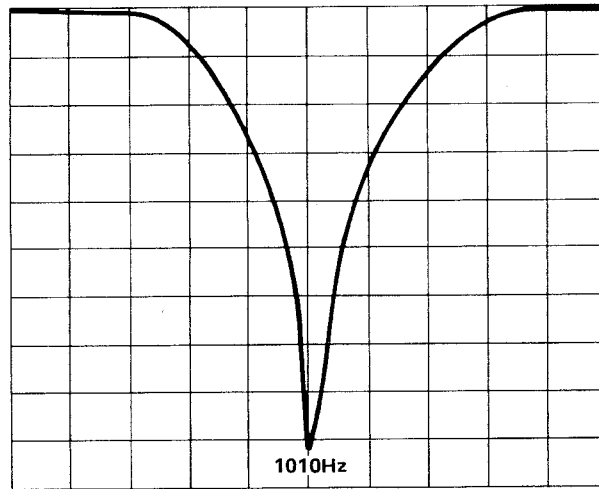

Figure 5-5 Notch Filter Adjustment
5. Sweep the network analyzer and check the overall response is as shown in Figure 5-5.